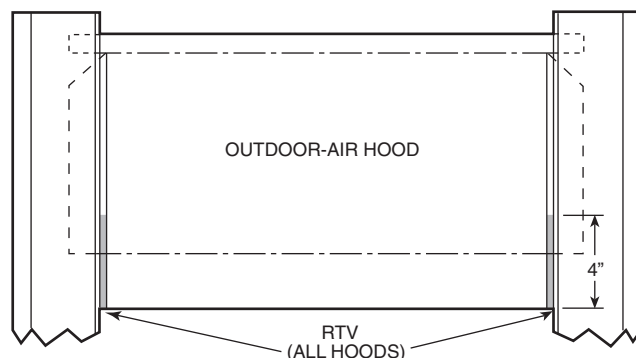

Fig. 29 — Outdoor-Air and Economizer Hood
5. Apply a bead of RTV or similar sealant to corner of each hood at pivot points to prevent water leaks. See Fig. 29.
6. Apply a bead of RTV or similar sealant to corners of economizer hoods at pivot points to prevent water leaks. See Fig. 29.
5. Apply a bead of RTV or similar sealant to corner of economizer hood at pivot points to prevent water leaks. (See Fig. 29.)